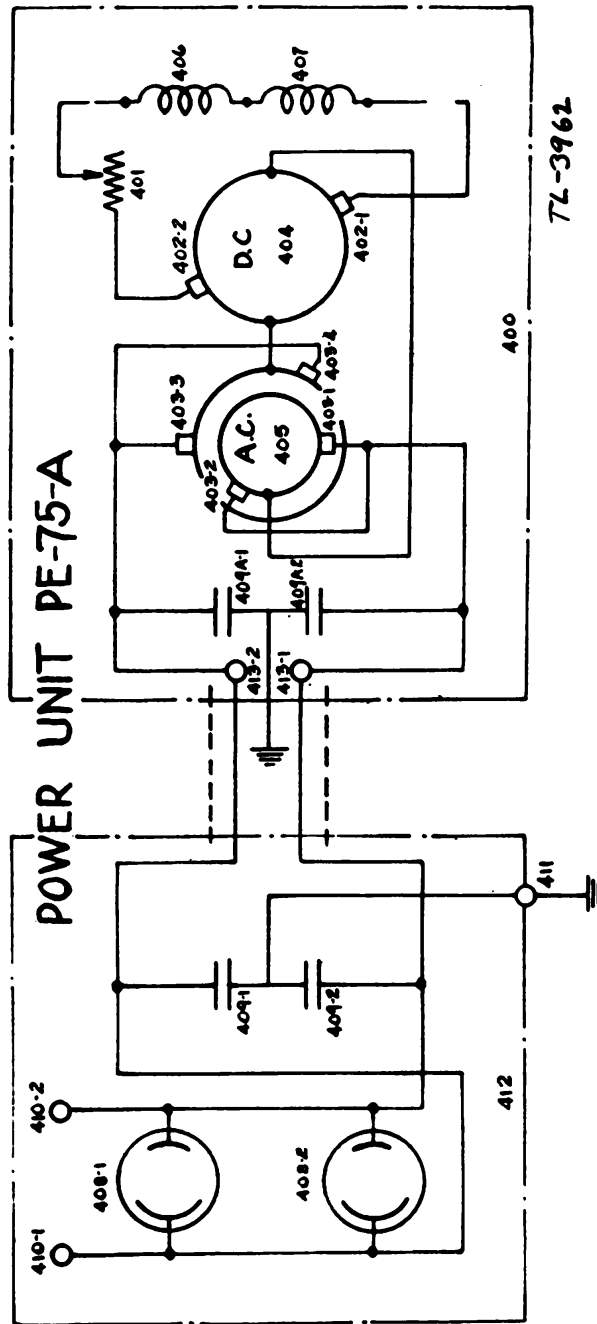

FIGURE 14.—Generator and filter, schematic diagram.
(4) *Circuit tests* (fig. 14 and table I or II).—If the generator fails to deliver a-c output, proceed in the following order to check the generator circuits, after first making sure that all of the d-c and a-c brushes are making good contact with the commutator and collector rings, respectively (see par. 10b); that the brush springs have the required tension ((3) above); and that the surfaces of the commutator and collector rings are in good condition (see (1) above).
(h) A correct d-c voltage reading but no a-c voltage indicates that the connection from the commutator to the collector rings is broken (see fig. 14), and that the armature must be replaced. This is an uncommon cause of trouble.